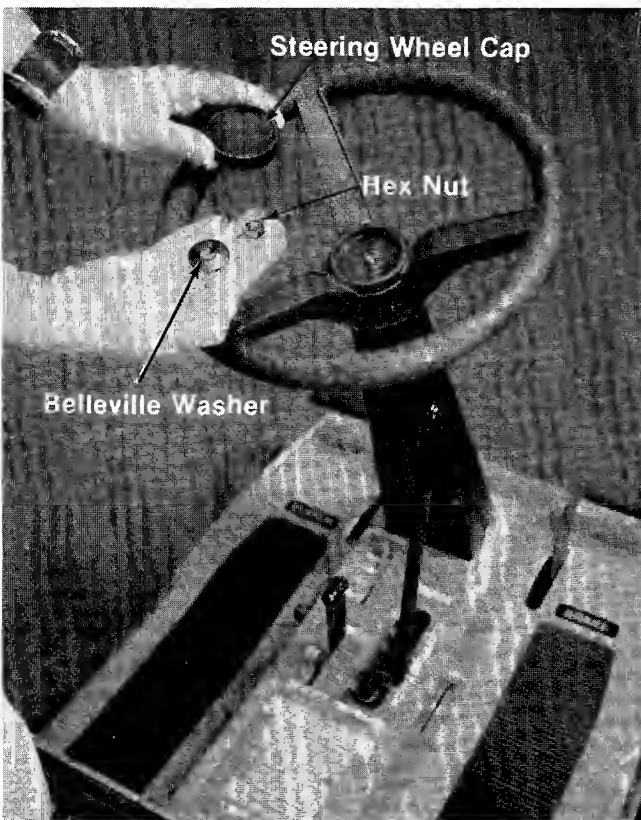

FIGURE 5. STEERING WHEEL ASSEMBLY
8. Place the steering wheel on the tubing assembly and fasten with belleville washer and hex nut. See figure 5.
10. Place the steering wheel cap on by hand. See figure 5.